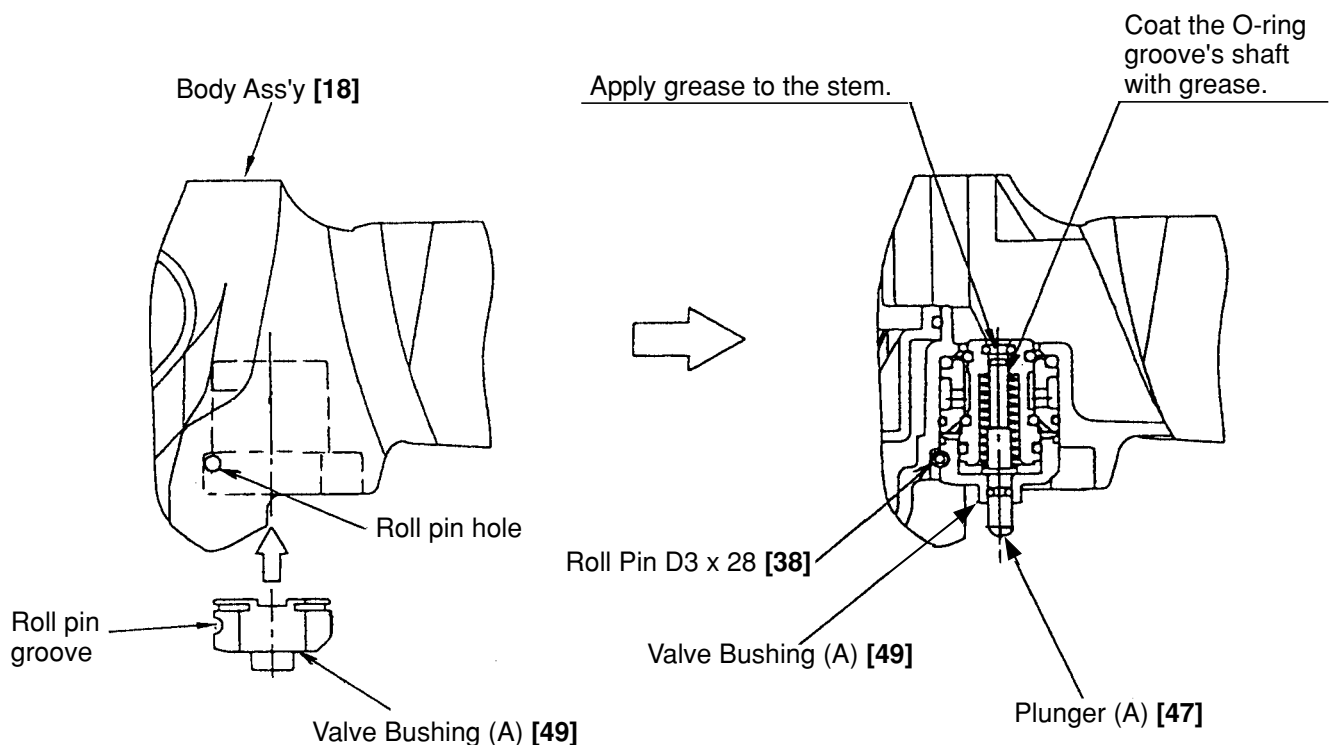

Fig. 26
- Thoroughly apply grease to the O-Ring (I.D 1.8) [48] on Plunger (A) [47], O-Rings (I.D 11) [43], (S-18) [41] and (S-4) [45] on Valve Piston (B) [44], and the shaft of Plunger (A) [47] as shown in Fig. 26.
- As shown in Fig. 26, install Valve Bushing (A) [49] so that the roll pin groove in Valve Bushing (A) [49] will be aligned with the roll pin hole in the Body Ass'y [18]. First, insert a roll pin puller (3 mm (0.118 ") dia.) into the roll pin hole. Then, upon confirming that the puller passes through the hole, drive in the Roll Pin D3 x 28 [38].